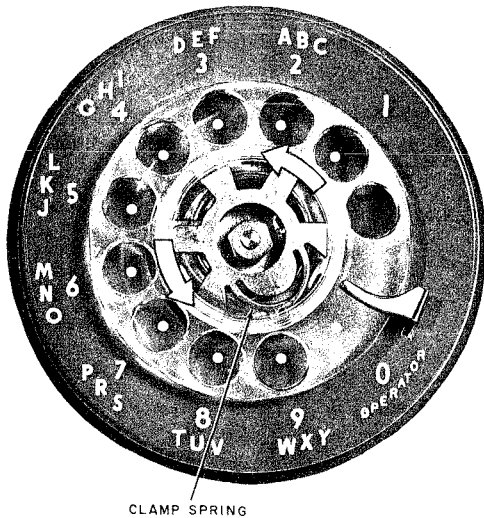

Fig. 5— Replacing Plastic Fingerwheel
- (1) Place fingerwheel over clamp with "0" hole directly over digit 9, making sure fingerwheel depressions are properly positioned on prongs of clamp plate.
- (2) Rotate fingerwheel in counterclockwise direction until clamp spring snaps into notch on underside of fingerwheel (Fig. 5).